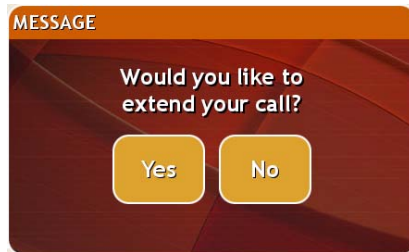

FIG. 99 Extend Call Popup
2. Press the up or down arrows to increment the timeout up by 1 second in each direction. If your call exceeds your session timeout the panel provides you with a popup (FIG. 99) to extend the session.